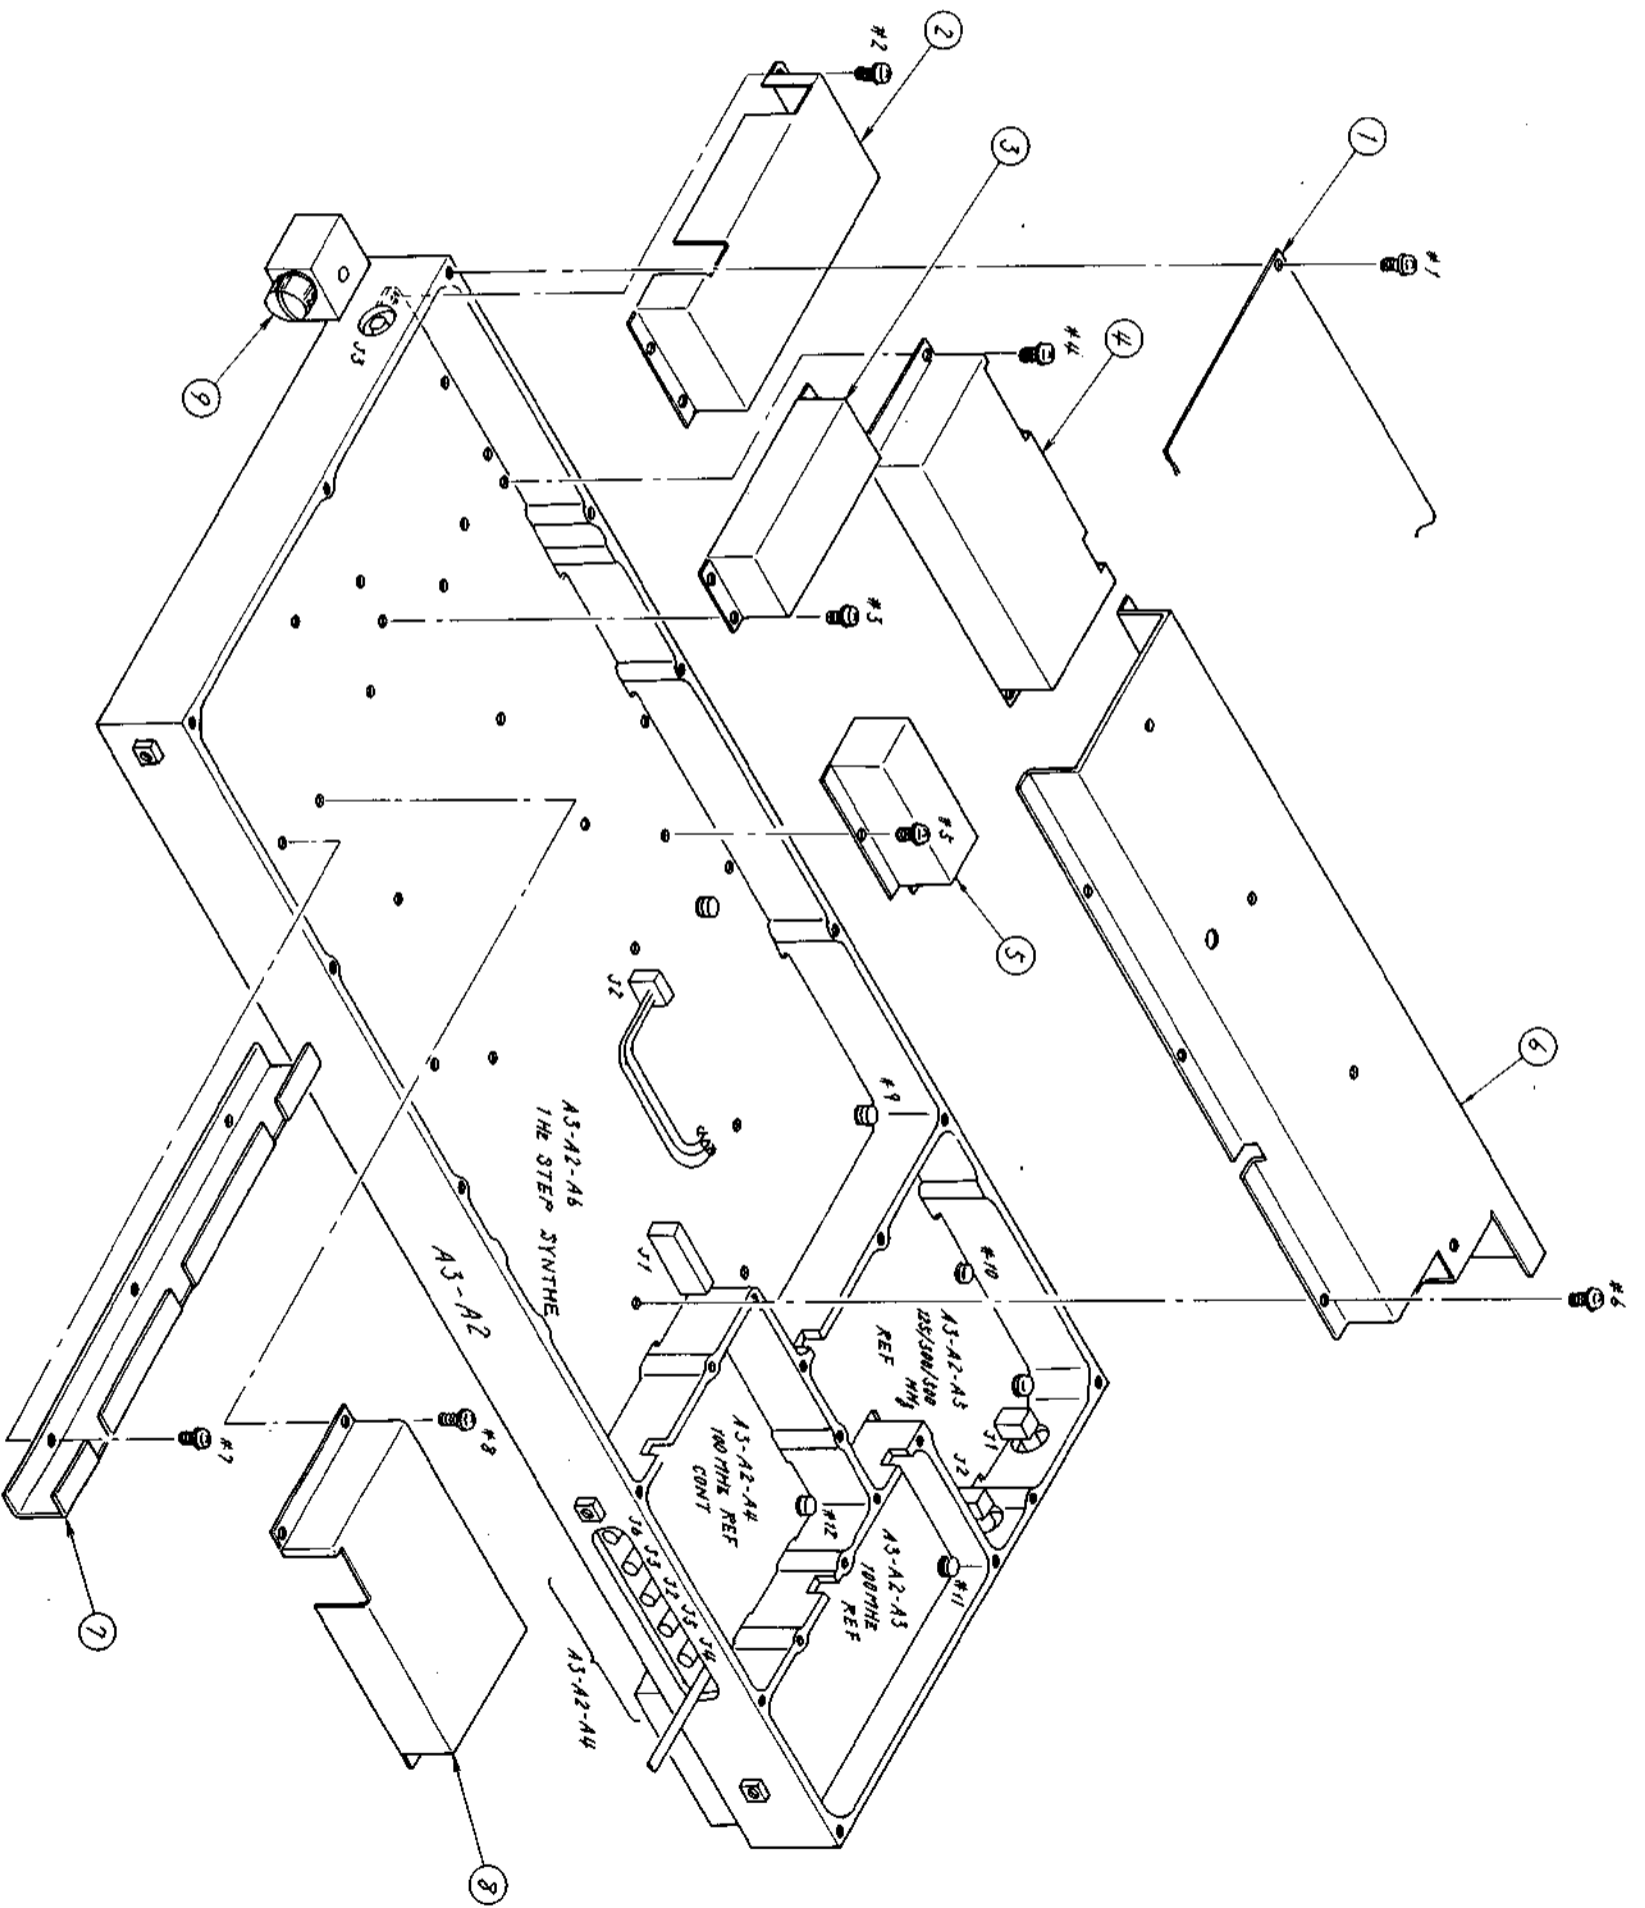

Fig. 5-13 A3: 1st LOCAL UNIT -
5.8 Disassembling A3: 1st LOCAL UNIT (Figs. 5-13 to 5-16)
(1) A3-A2: LOCAL UNIT (2) (Figs. 5-13 and 5-14)
(a) Removing A3-A2-A6: 1 Hz STEP SYNTH (Fig. 5-13)
(b) Removing A3-A2-A5: 125/300/500 MHz REF (Fig. 5-13)
(c) Removing A3-A2-A4: 100 MHz REF CONT (Fig. 5-13)
(d) Removing A3-A2-A3: 100 MHz REF (Fig. 5-13)